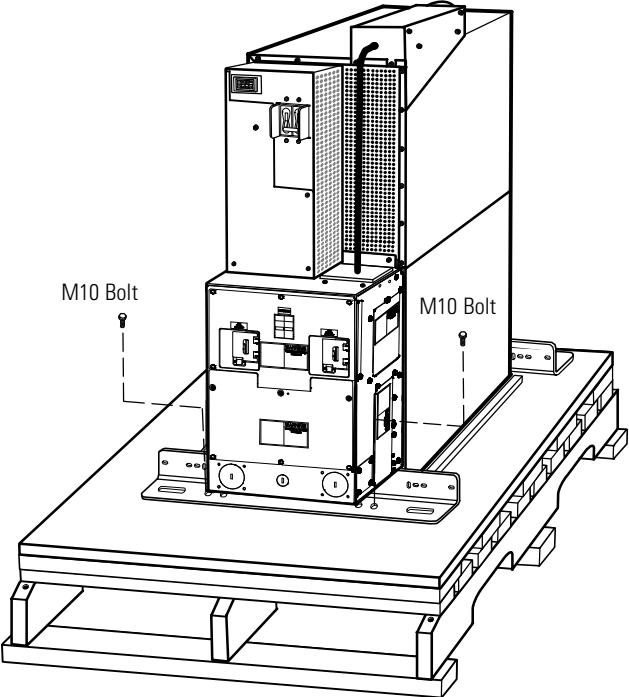

Figure 5. Removing the Rear Stabilizing Bracket Bolts
- 6. Remove the two M10 bolts securing the rear stabilizing bracket to the pallet (see Figure 5).